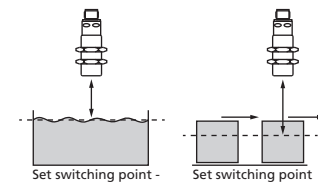

Fig. 3: Setting the switching point for different directions of movement of the object
■ If the object to be scanned moves into the detection area from the side, the »Set detect point +8 % – method B« Teach-in procedure should be used. In this way the switching distance is set 8 % further than the actual measured distance to the object. This ensures a reliable switching distance even if the height of the objects varies slightly (see Fig. 3).